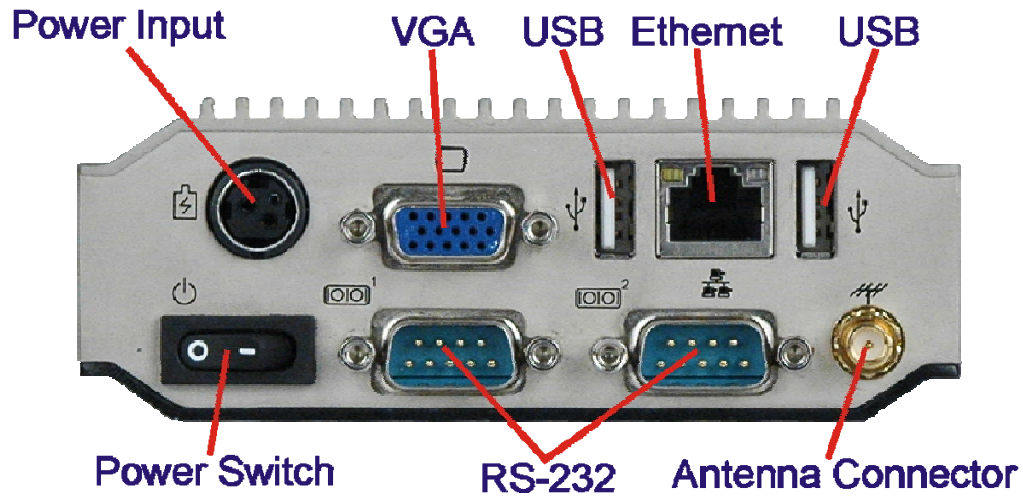
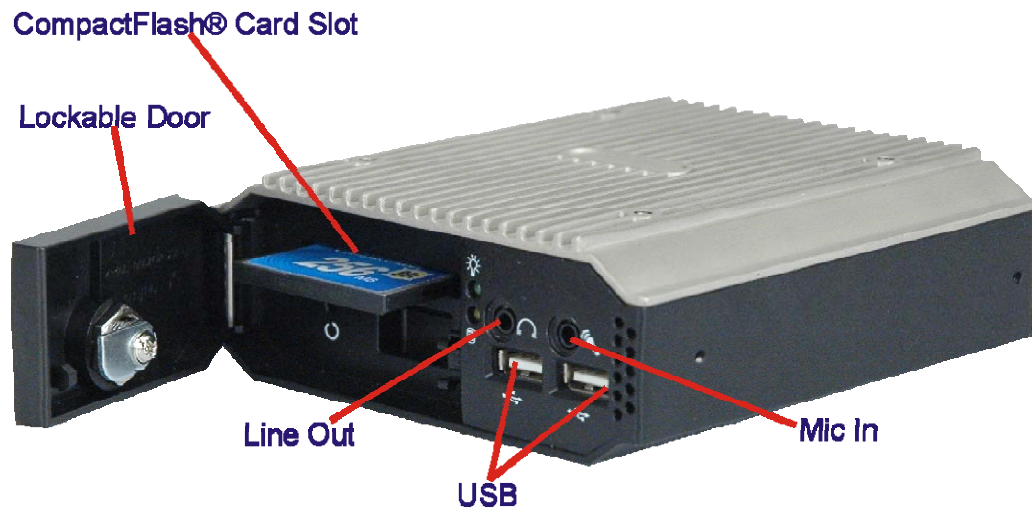

Figure 4-5: Peripheral Connectors (Rear)
Figure 4-6: Peripheral Connectors (Front)
CN Location:	See Figure 4-5
CN Location:	See Figure 4-6
- CN Location:** See Figure 4-5
CN Location:	See Figure 4-5 and Figure 4-6